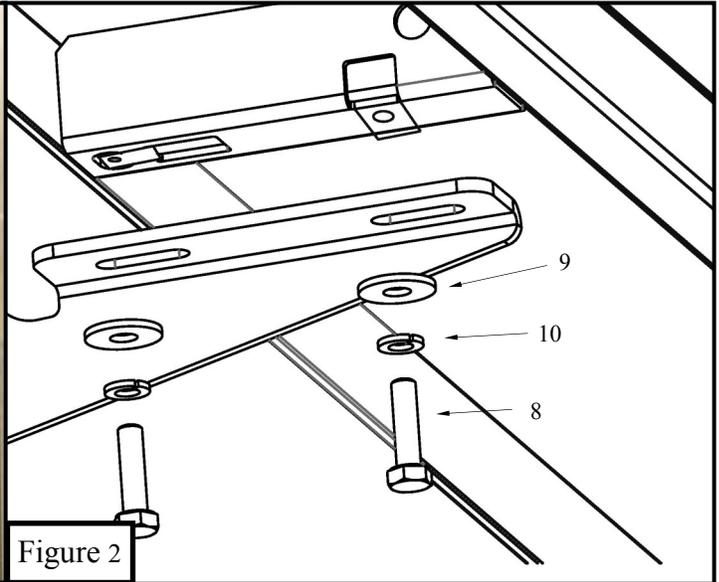

Figure 2
- Take the drivers side running board and place it onto the mounting bracket cradles; align the running board with the mounting holes in the brackets and attach using (4x) M8 hex head bolts (item 8), (4x) M8 lock washers (item 10), and (4x) M8 large flat washers (item 9) **Figure 2.** *Do not fully tighten at this time.*